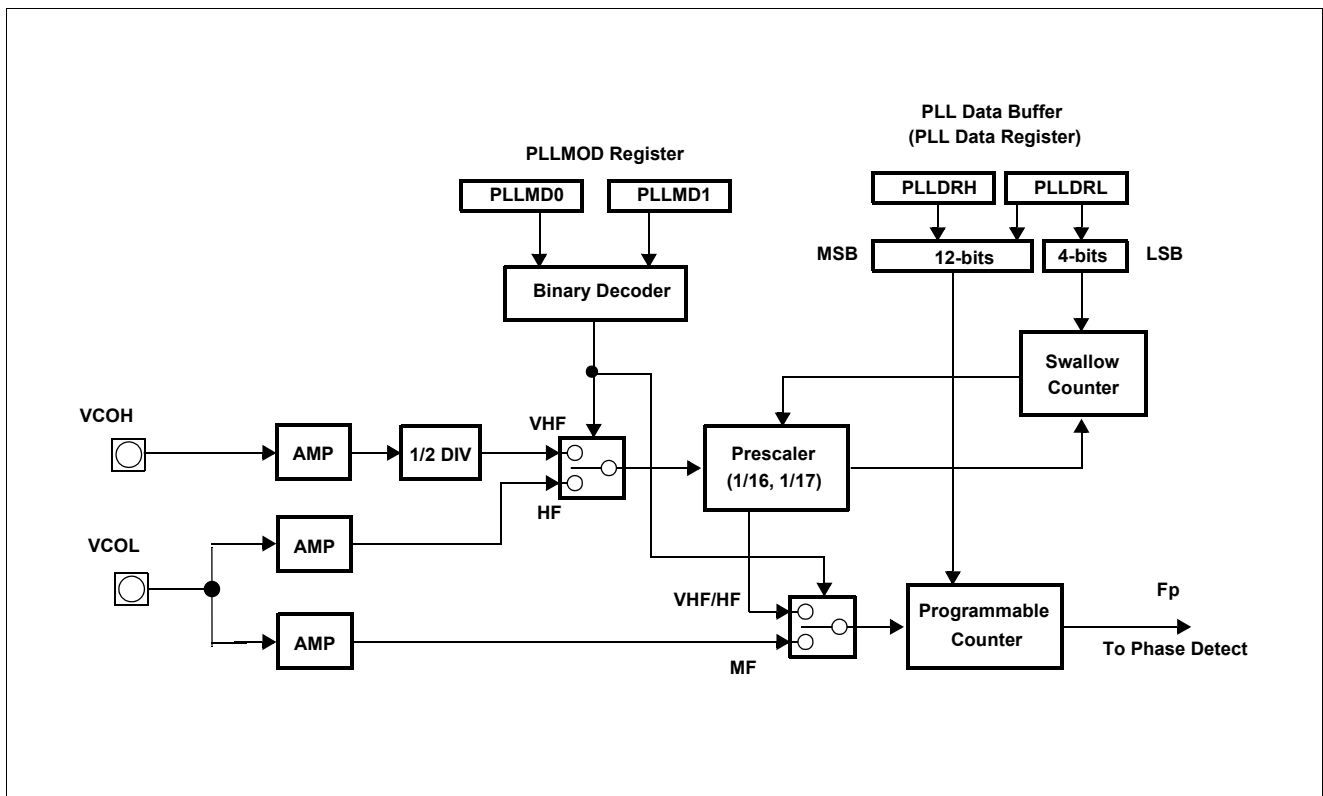

Figure 3-38 Input Selection Circuit and Programmable Divider Configuration
Figure 3-38 shows the input selection circuit and programmable divider configuration.
As shown in Figure 3-38, the input selection circuit consists of a VCOH pin, VCOL pin, and two input amplifiers. The programmable divider consists of a prescaler(1/16, 1/17), swallow counter (SC), programmable counter (PC), and frequency division selection switch.
The programmable divider divides a frequency according to the values of PLL data register using a swallow counter and a programmable counter. Figure 3-38 shows the input pins (VCOH and VCOL) and frequency division systems. The content of PLL mode register controls the input pin and the frequency division system for the programmable counter. The configuration and functions of the PLL mode select register are described in *PLL Mode Select Register Configuration and Functions* section.